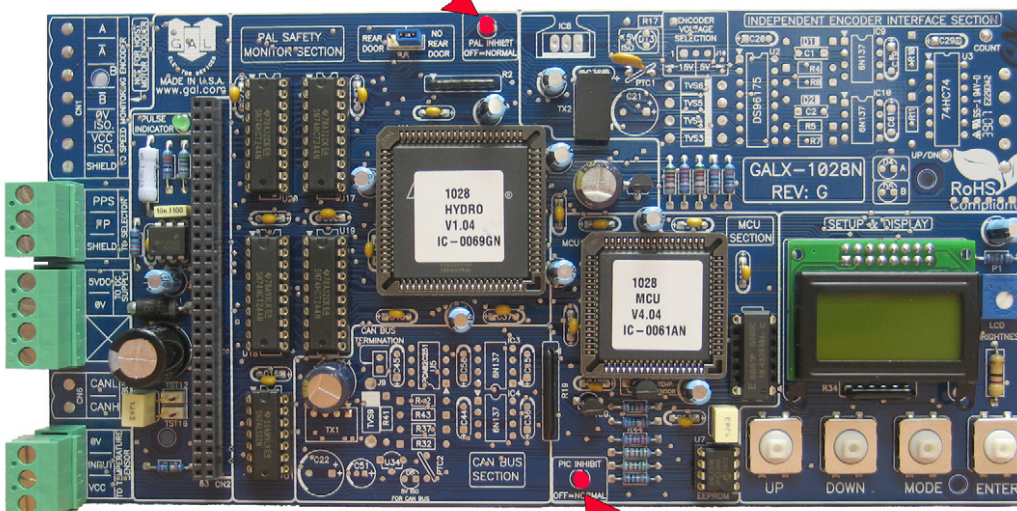

Figure 2
3. Check PIC and PAL inhibit LEDs (Figure 2).